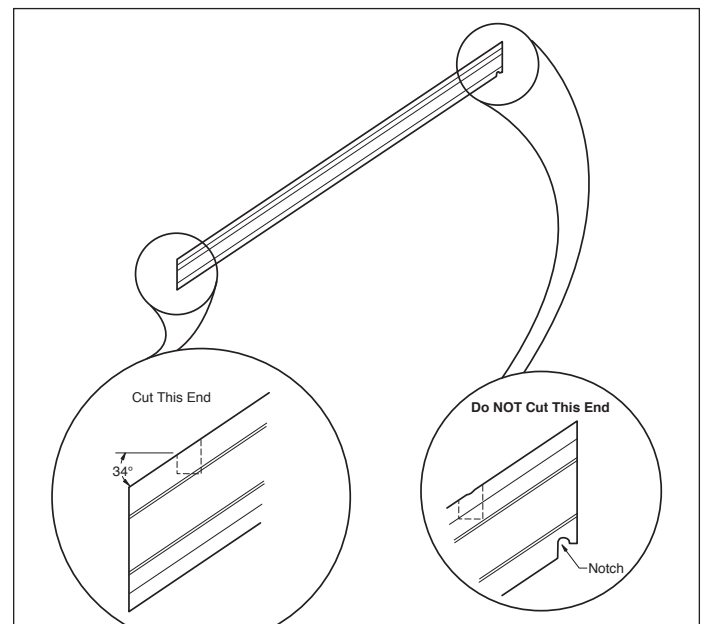

fig. 2
Step 1: Measure the distance between posts and, if necessary, cut the 2x4 rails to size by trimming the unnotched end. The baluster and rails have been set to 34 degrees, so if you need to cut the rails and cap rail, cut them to the 34 degree angle (**fig.2**). Cut the cap rail at the same end as the rails.